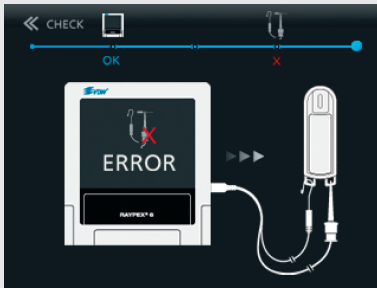

Fig. 35 Accessories ERROR message
- Cables CHECK will start automatically and the results – either OK (Fig. 34) or ERROR (Fig. 35) - will be shown on the screen.